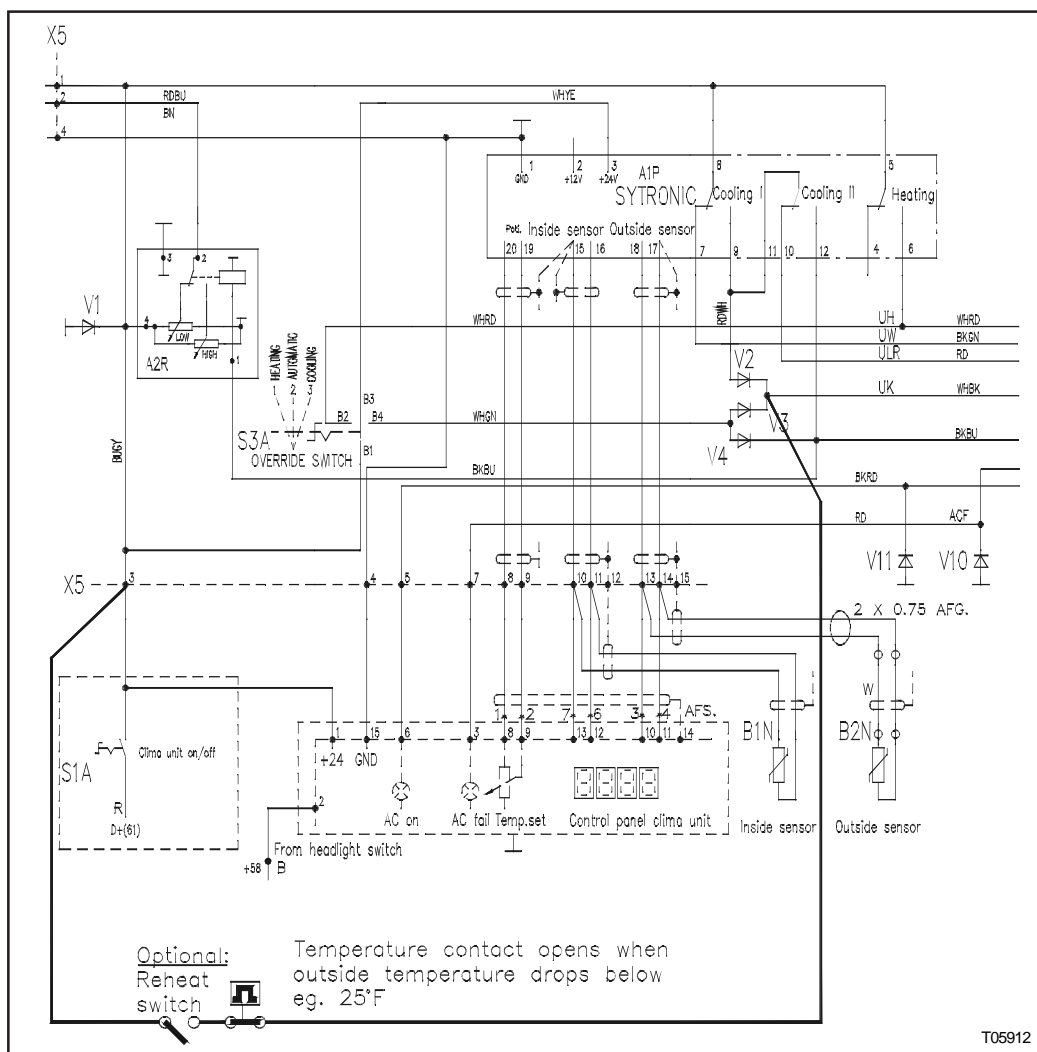

Figure 5 : T2100 reheat switch wiring diagram
- 4) Refer to the wiring diagrams (Figures 5 and 6) below before proceeding with steps 5 to 8 to hook-up the low ambient temperature switch and the reheat cutout switch.